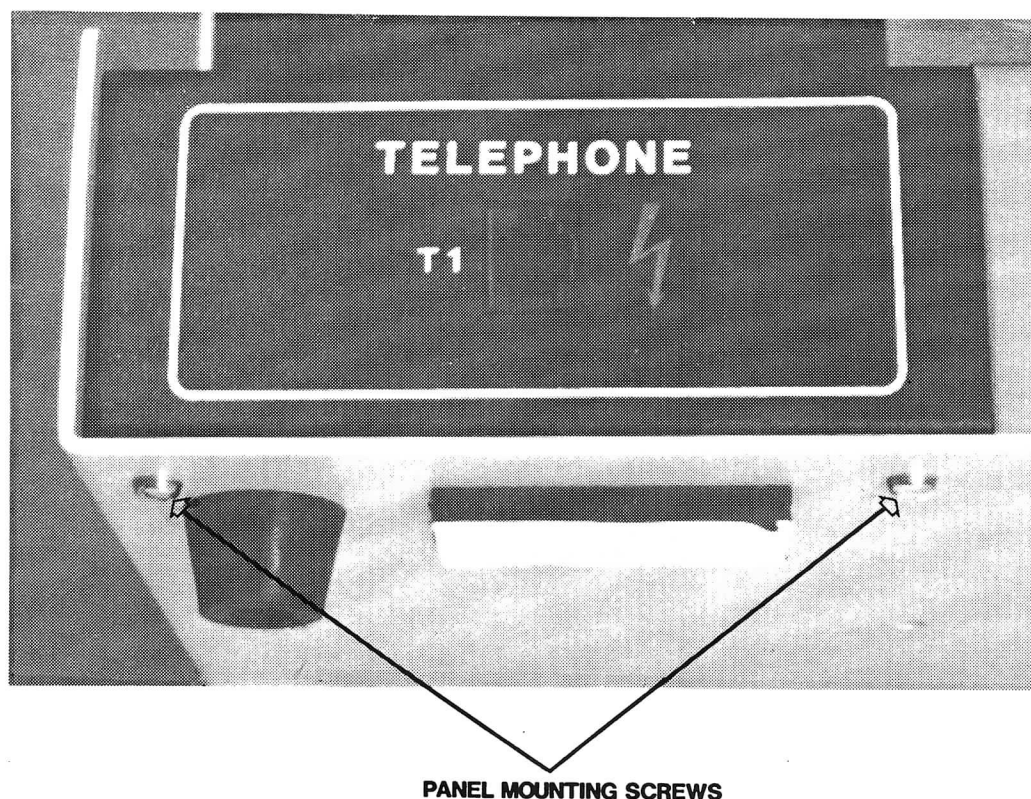

Figure 9. Locations of Telephone Input Socket Panel and Screws.
2. Remove the two lower front left (Transmission Test Fixture end) screws on the bottom panel. See Figure 9.